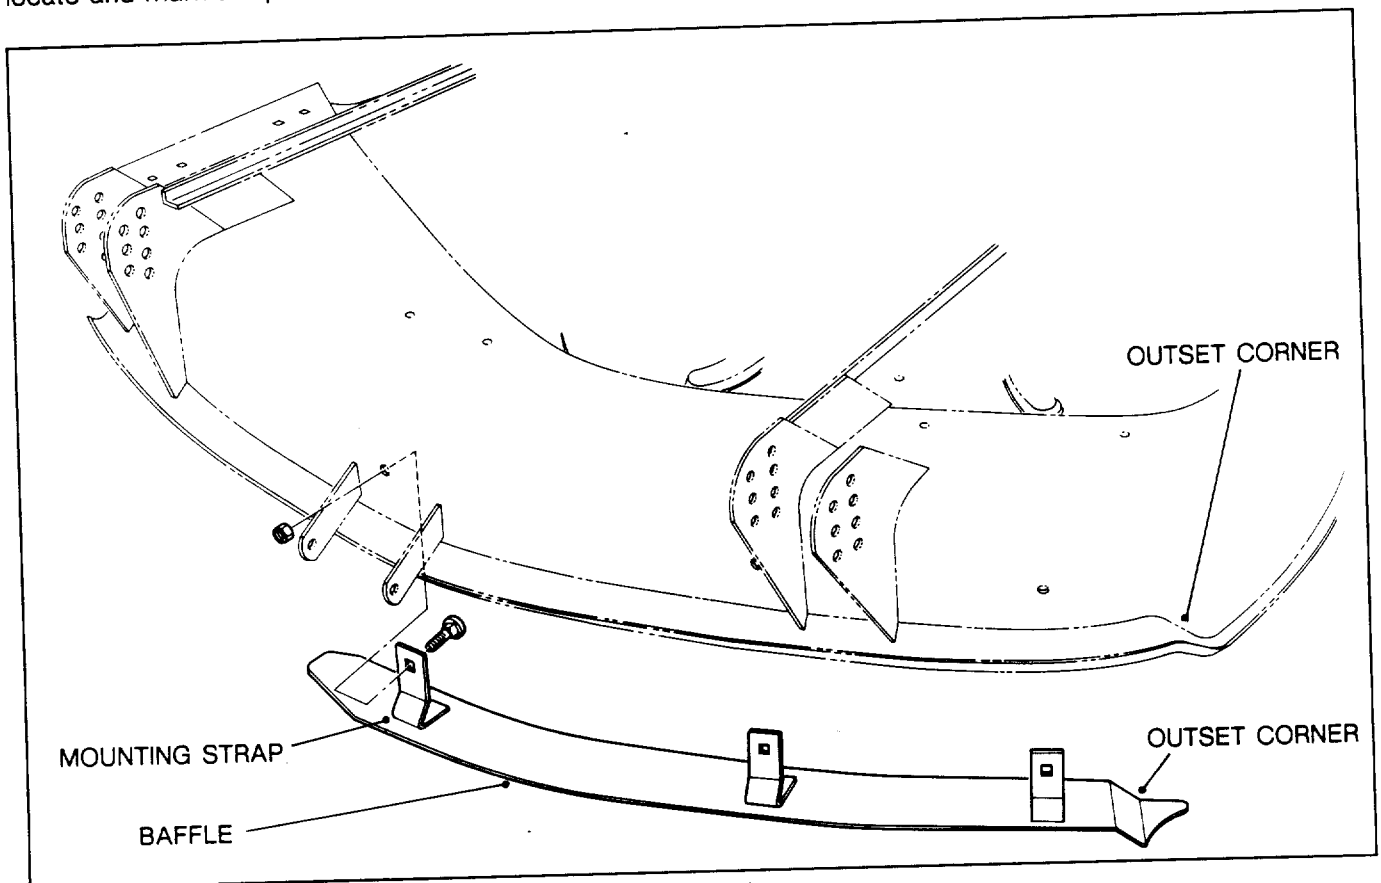

Figure 1
1. Position the baffle under the deck with the outset corner pushed up flush against the outset corner of the deck (Fig.1). The front edge of the baffle should rest up tight against the front lip of the deck.
in deck. Drill (3) 7/16" dia. holes thru deck at locations marked (Fig.1).
3. Secure the baffle to the underside of deck with the (3) carriage bolts and locknuts supplied with kit. Locknuts to be positioned on outside of deck.
**CAUTION: IF THE BAFFLE IS REMOVED FROM THE DECK, PLUG THE MOUNTING HOLES WITH (3) 5/16" CAPSCREWS.**